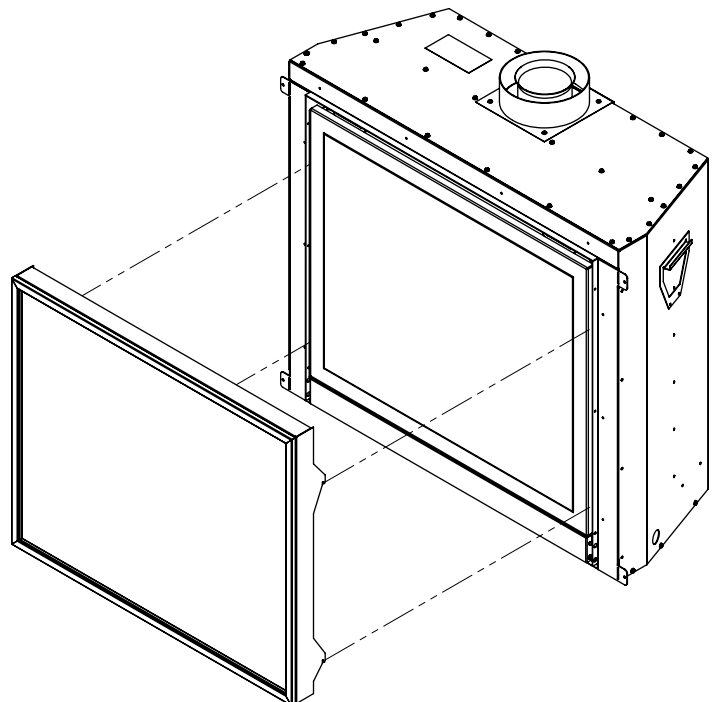

Figure 36. Safety Screen Mounting
2. Lift the face upright in front of the appliance with the four (4) hooks pointing down towards the fireplace. Slide the hooks into the corresponding brackets on each side of the cabinet (see Figure 36). Ensure the hooks are secure before releasing the safety screen.